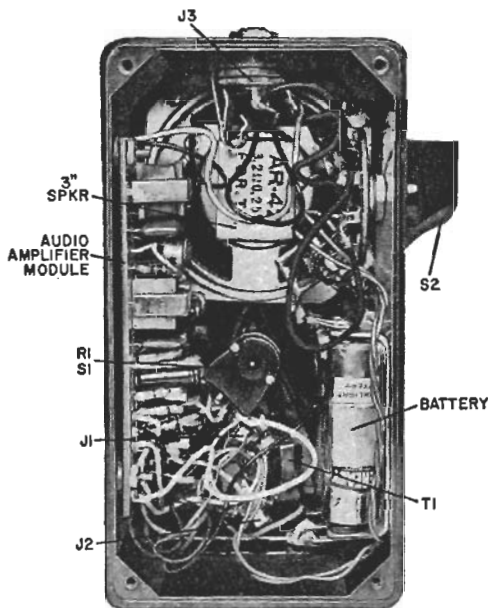

Fig. 2. A miniature 8-ohm speaker and a selector switch can be mounted on the case to provide a choice of either headphone or speaker output.
**Construction.** Either a plastic or a metal case measuring about  $5$ " x  $3$ " x  $2$ " can be used to house the battery and amplifier module. Transformer  $T1$  can be mounted by soldering one of its mounting tabs to the outer conductor lug of  $J2$  as shown in Fig. 2. Use  $\frac{1}{2}$ "-long